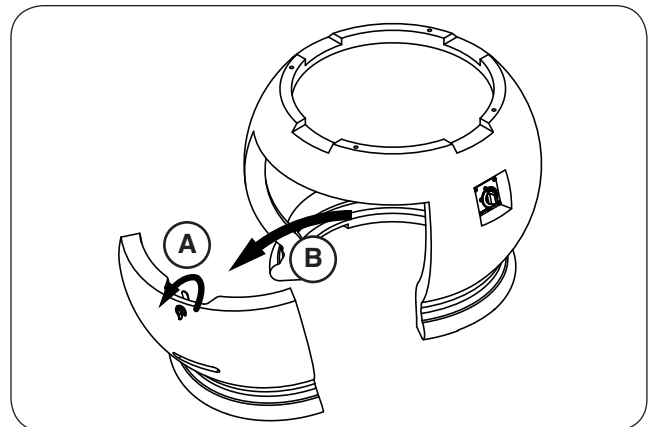

Fig. 23-2 Remove door
2. Remove the storage door by first turning the door handle counter-clockwise, then carefully pulling the door outward (see Fig. 23-2). Store in a safe location.